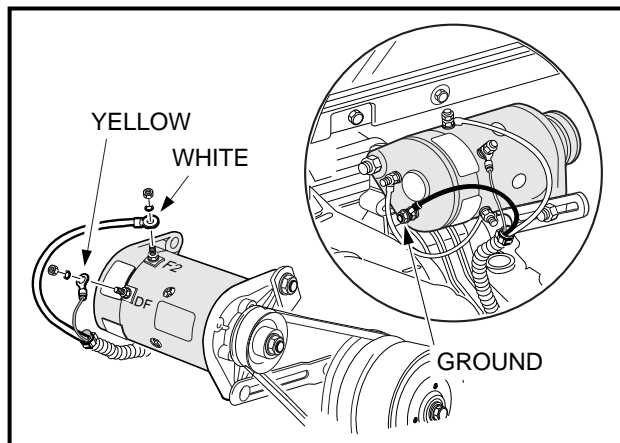

Figure 16-19 Generator Wires
- 3.12. Mark for proper reconnection and then disconnect the 6 gauge white wire (F2 post), 6 gauge black ground wire (A2 post), and 16 gauge yellow wire (DF post) from starter/generator (**Figure 16-19, Page 16-10**).